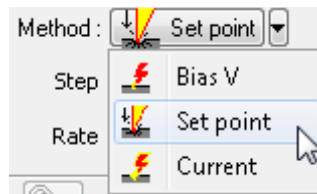

Fig. 12-15. Selecting the lithography method
5. For Force lithography, select **SetPoint** in the **Method** drop-down list (Fig. 12-15).